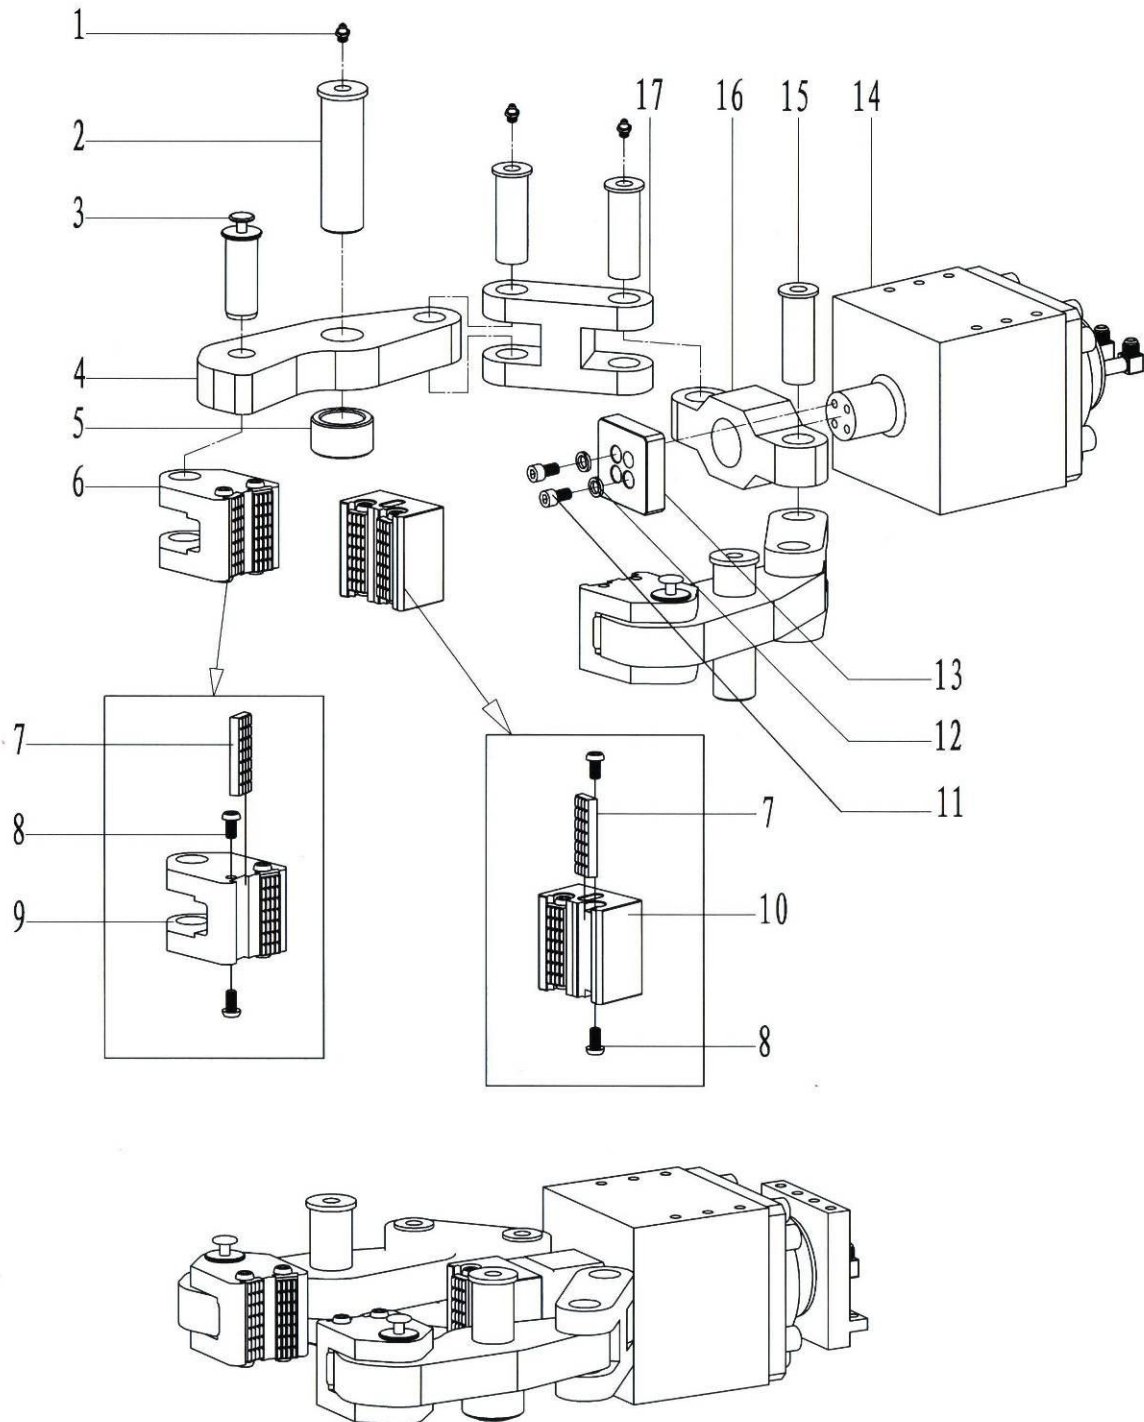

Fig. 27
7.2.1、Backup Tong Transmission assembly (Fig.27, Table.22)